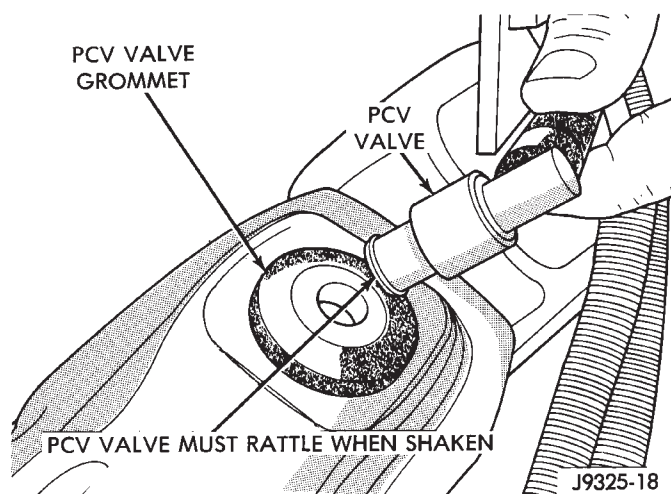

Fig. 17 Shake PCV Valve—Typical
(4) Turn engine off and remove PCV valve from cylinder head (valve) cover. The valve should rattle when shaken (Fig. 17).